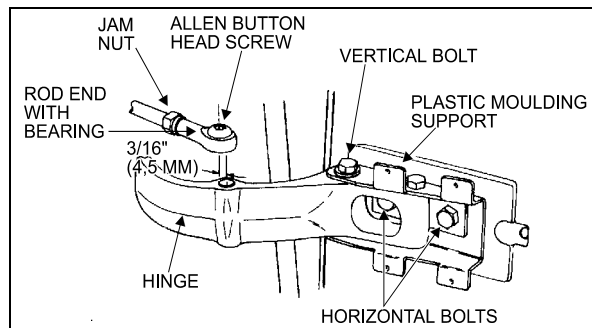

FIGURE 18: UPPER DOOR HINGE (COACH)
2. Remove the Allen button head screw and the washer retaining the rod end with bearing to the upper hinge. See figure 18.
3. Remove the Allen button head screw and the washer retaining the ball and socket rod to the upper hinge. See figure 18.
3. Remove the Allen button head screw and the washer retaining the rod end with bearing to upper hinge. See figure 18.